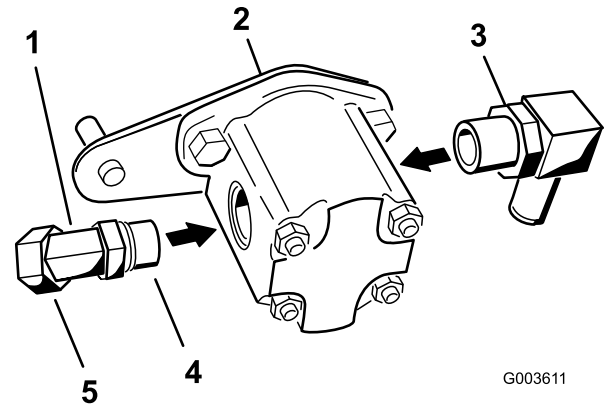

Figure 18
2. Install the 45-degree elbow to the side of the hydraulic pump (Figure 18).